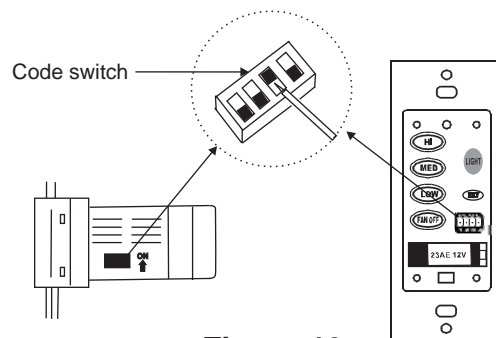

Figure 13
**NOTE:** This remote control unit is equipped with 16 code combinations to prevent possible interference from or to other remote units. The frequency switches on your receiver and transmitter have been preset at the factory. Please recheck to make sure the switches on transmitter and receiver are set to the same position, any combination of settings will operate the fan as long as the transmitter and receiver are set to the same position. (Fig. 13)